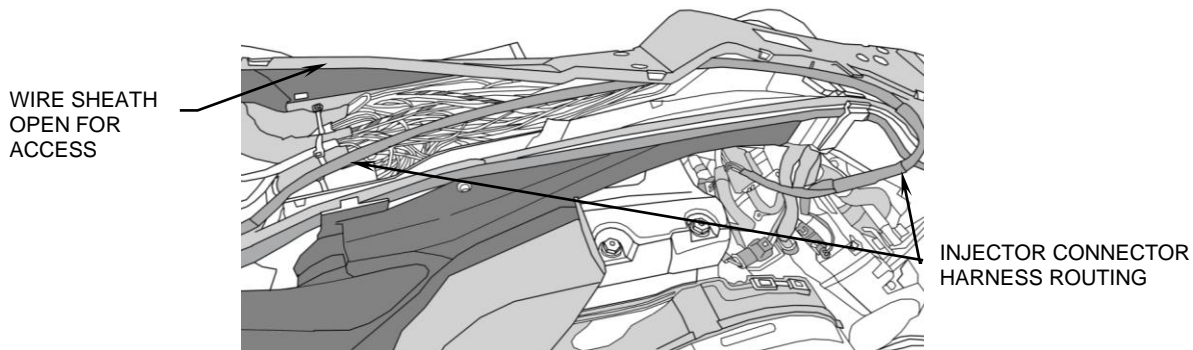

FIGURE 2
4. Place the Fi2000 case and harness on right side of the motorcycle between the large wire harness and ABS control block, under the right side panel area, see Figure 2. Route the main fuel injector harness and ground wire under the right frame rail and upward to under seat area. Open the plastic wire loom sheath by removing the ziptie attaching it to the frame and place the injector harness inside of it, towards the right side, route connectors forward to area between cylinder heads, see Figure 3.